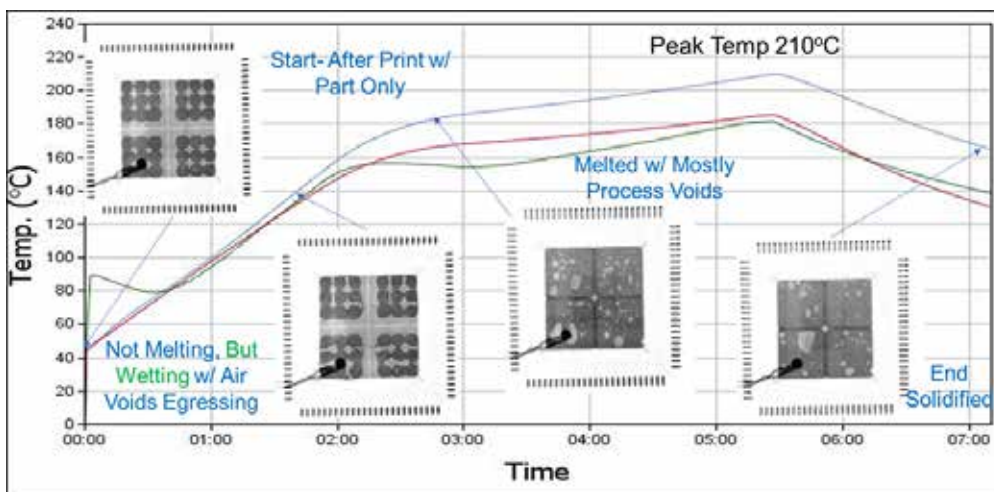

Figure 4. SnPb solder paste x-ray images at different times during simulated SMT reflow on MLF-100 devices.
**FIGURE 4** shows SnPb solder paste snapshot x-ray images at different times during simulated SMT reflow on MLF-100 devices. The sample is hotter because the top and bottom heaters both contribute heat to the sample in between.